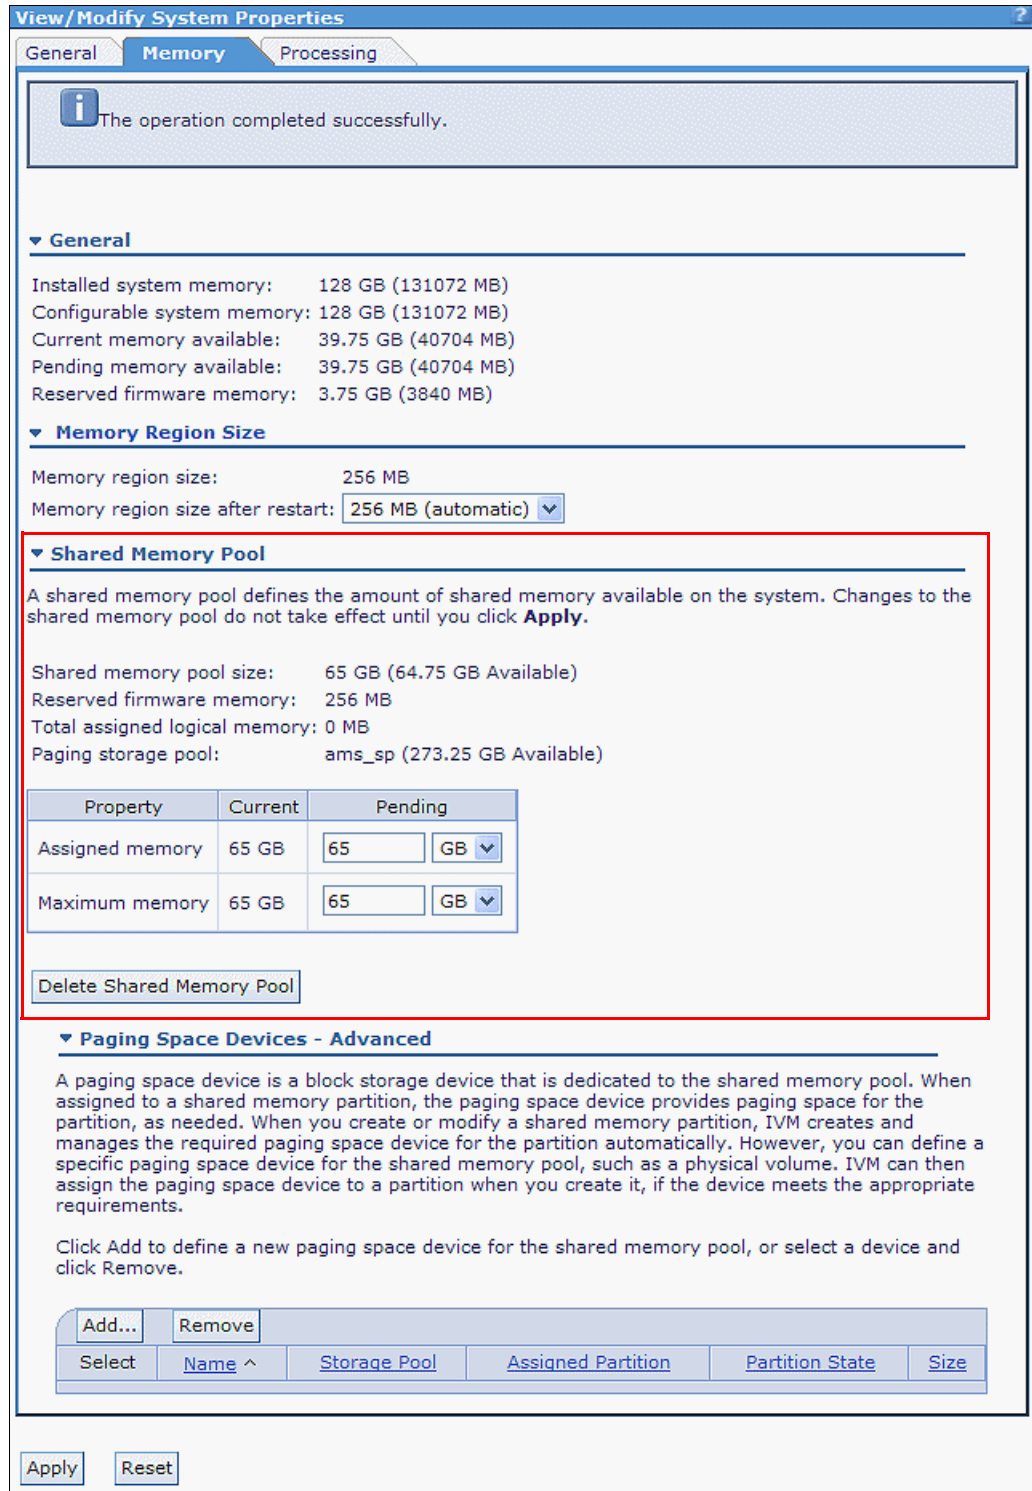

Figure 4-25 The IVM memory configuration after AMS pool creation
- After applying the AMS Pool configuration, the View/Modify System Properties window shows the new configuration, as depicted in Figure 4-25.